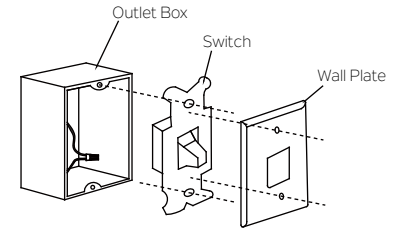

Fig. 26
**Step 1.** Remove the existing wall plate and the old switch from the wall outlet box. Wire nut the BLACK leads (hot) together and push back inside the outlet box. (Fig. 26) Or Select the desired location with a new wall outlet box.